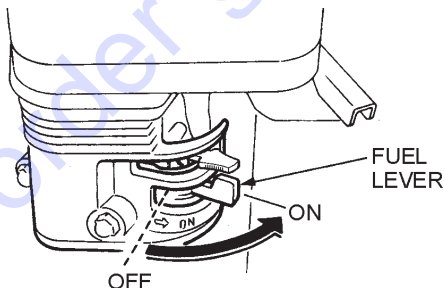

Figure 8. Engine Fuel Valve Lever
1. Place the engine **fuel valve lever** (Figure 8) to the "ON" position.